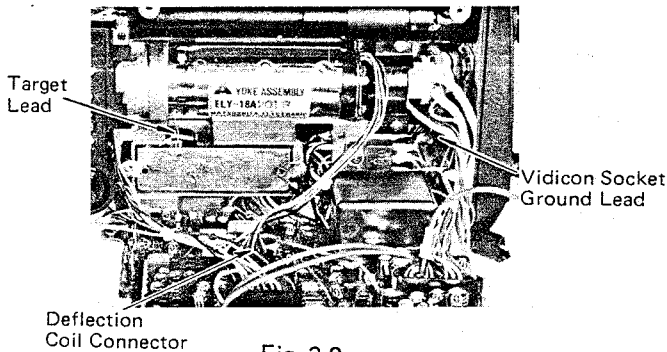

Fig. 3-2
- Remove the shield plate and unsolder target lead. (Fig. 3-2)
- Disconnect the deflection coil connector from the PCB, and remove the one screw which holds the vidicon socket ground lead on the chassis. (Fig. 3-2)